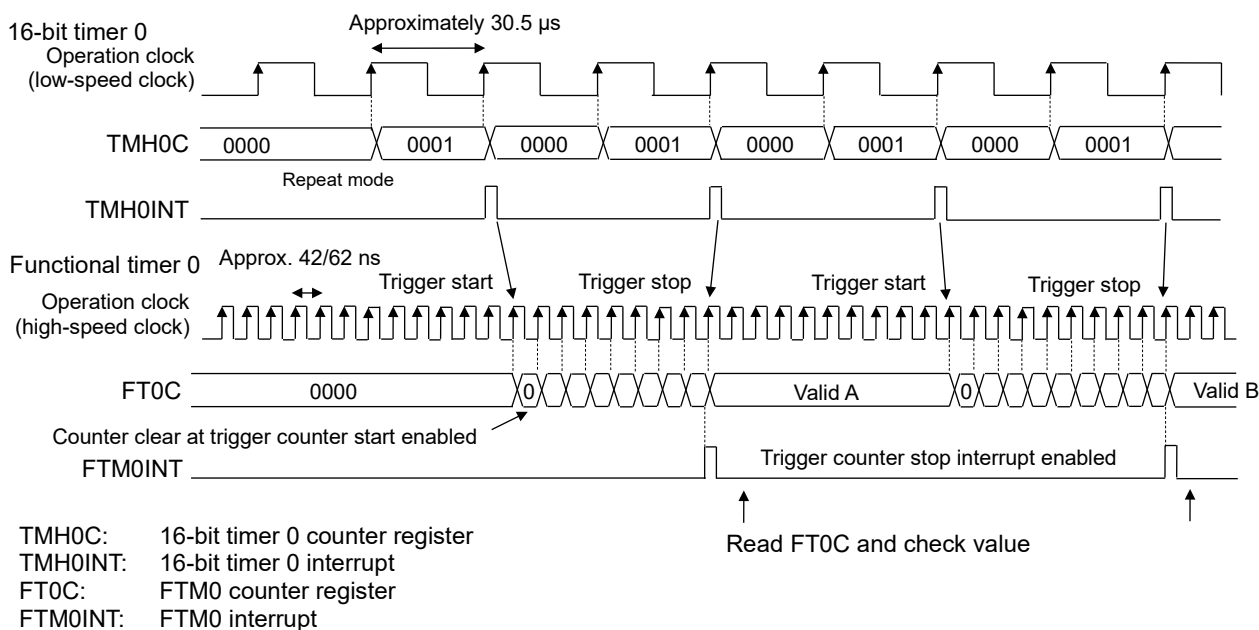
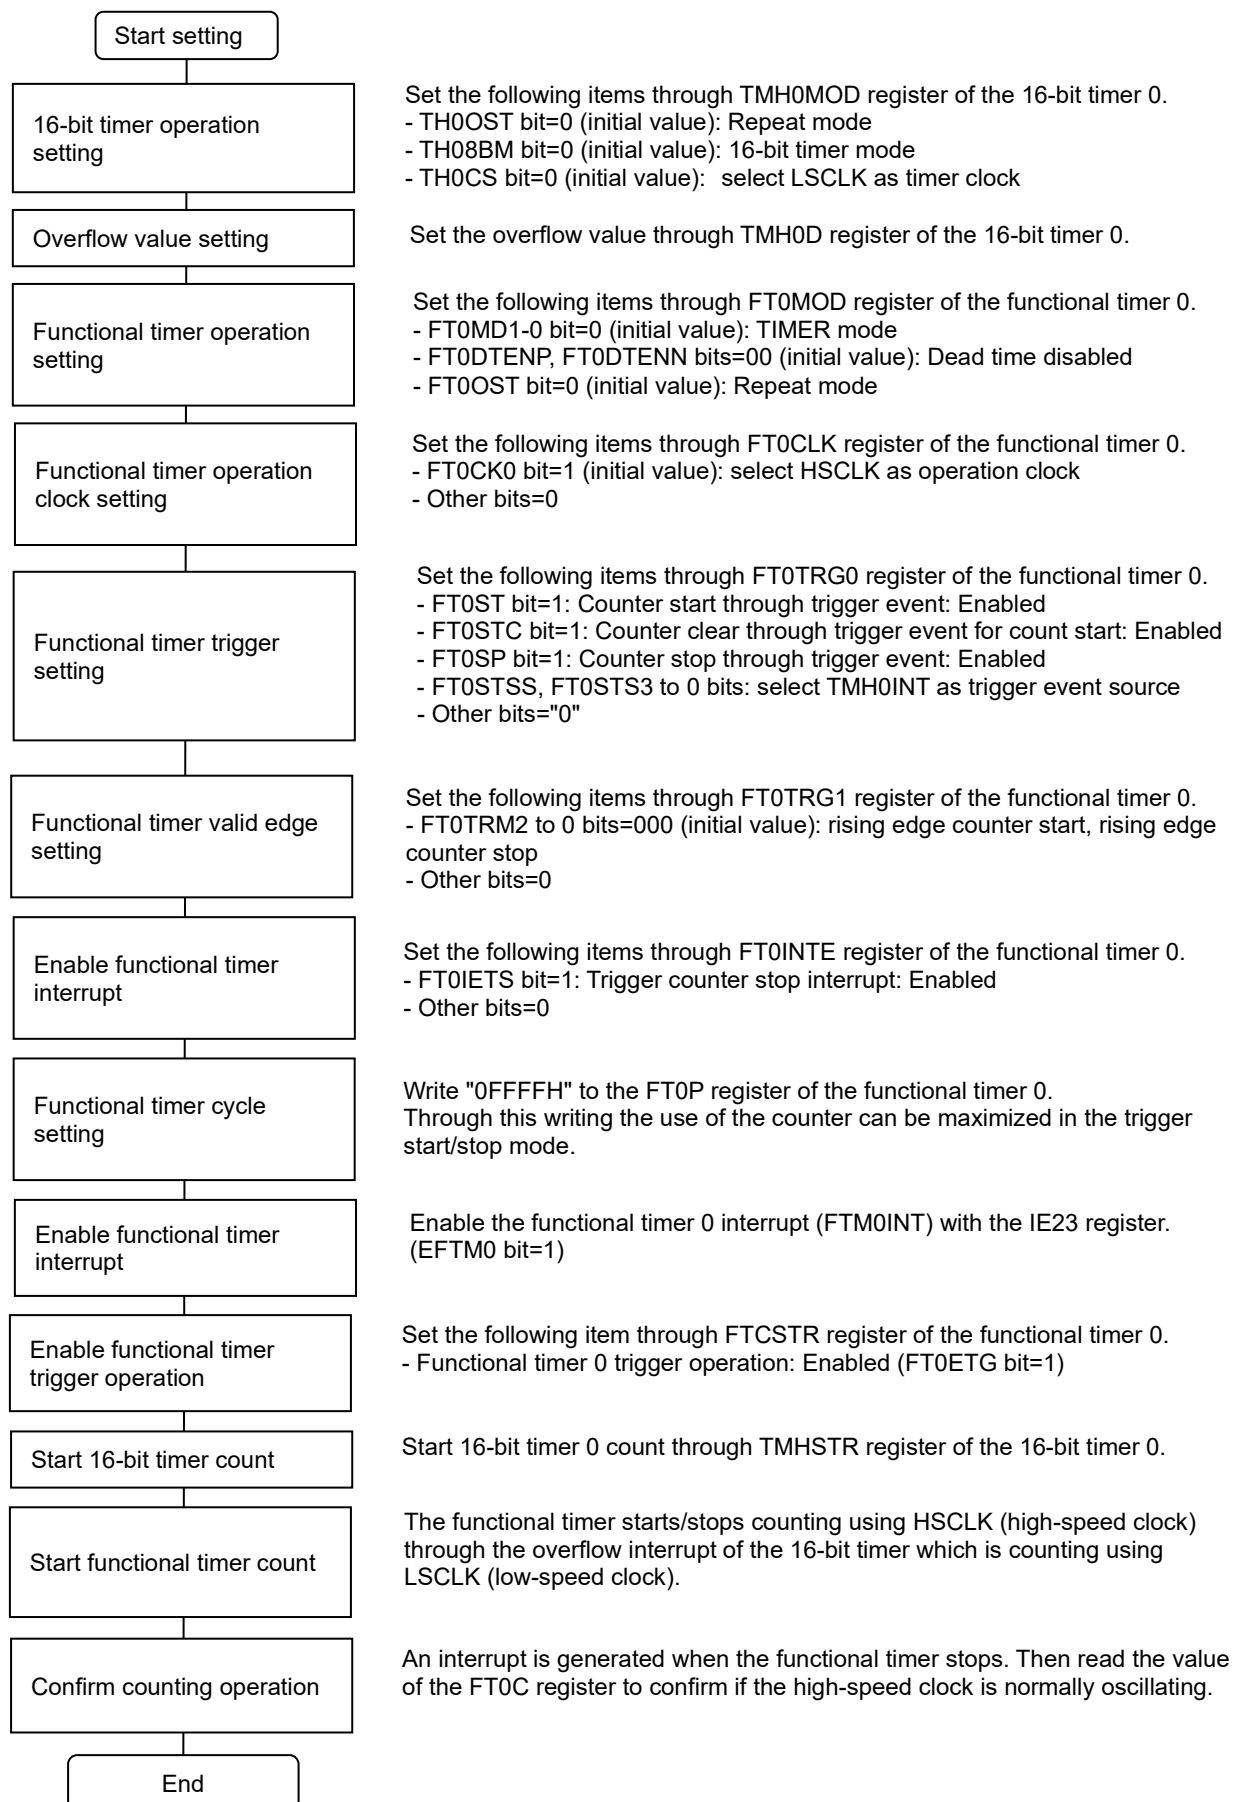

Figure 29-4 High-Speed Clock (PLL Oscillation Circuit) Oscillation Monitoring Example
Figure 29-5 Setting of High-Speed Clock (PLL Oscillation Circuit) Oscillation Monitoring Example
Figure 29-4 shows an example of the monitoring operation, using 16-bit timer 0 and Functional timer 0, for the high-speed clock (PLL oscillation circuit) oscillation.
Figure 29-5 describes the setting for the monitoring example shown in Figure 29-4.
- For "Overflow value setting" in Figure 29-5, set the value so that the overflow period of the 16-bit timer n is to be shorter than that of the functional timer n. If the functional timer n overflows, it disables the accurate check.